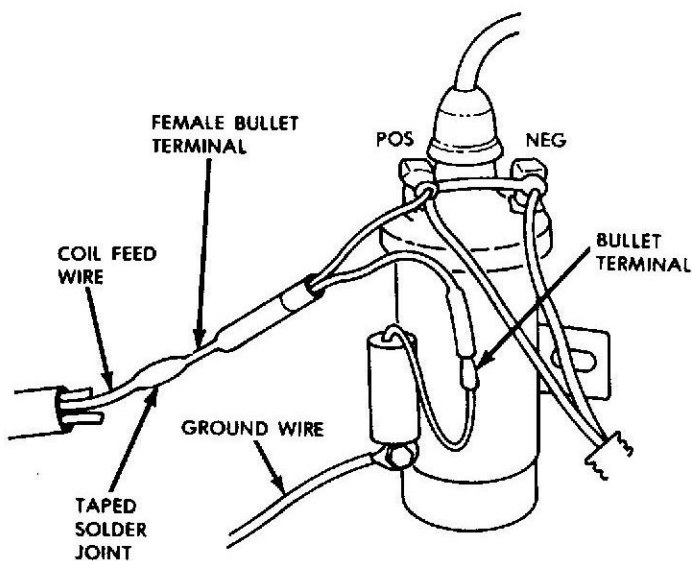

Fig. 5 Sensor Harness With Ignition Coil Spade Terminals
(9) Wrap soldered joint with 3M electrical tape (or equivalent).
(10) Remove capacitor attaching screw and cutoff spade terminal.
(11) Attach harness wire with male bullet connector and solder connection (if applicable). Wrap soldered joint with electrical tape.
(12) Connect capacitor, connect push-on connectors to coil terminals and connect coil feed wire to male bullet connector on new sensor harness (Fig. 5).